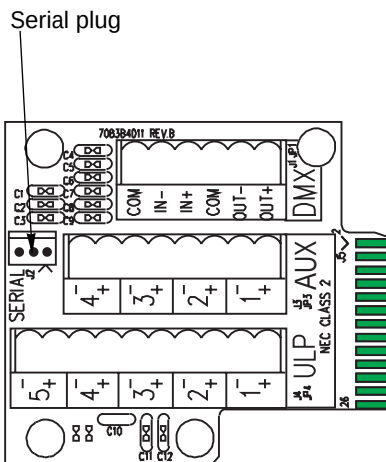

Figure 56: Serial plug on the ARCH board
7. Place the connector in the Serial plug on the ARCH option board in the rack. See Figure 56.